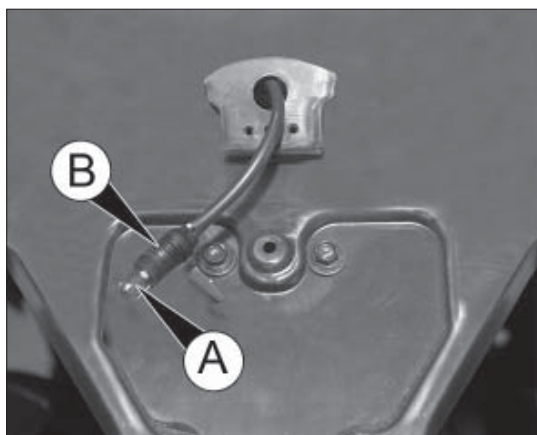

fig. 7
- disconnect the bulb A fig. 7 from the bulb holder B.
- replace the blown bulb and connect the new bulb to the bulb holder B fig. 7, ensuring that it is correctly inserted;